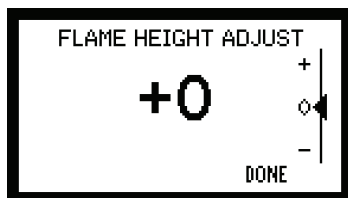

Figure 14.1
- Adjust the flame height using the "FLAME HEIGHT ADJUST" screen on the wall control (**Figure 14.1**).